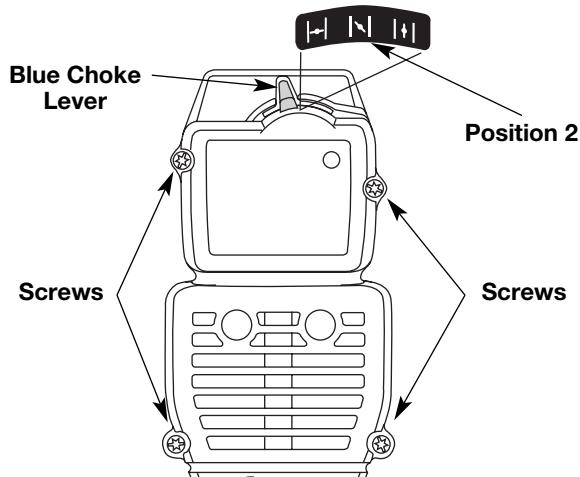

Fig. 23
2. Remove the four (4) screws securing the air filter/muffler cover (Fig. 23). Use a T-20 Torx bit screwdriver.
2. Insert the four (4) screws into the holes in the air filter/muffler cover (Fig. 23) and tighten.